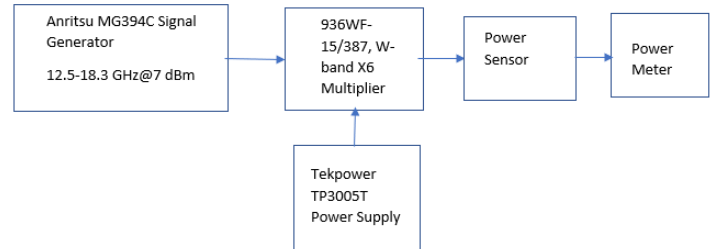

Figure 6.
- ➔ Do the setup as shown in the figure 6.